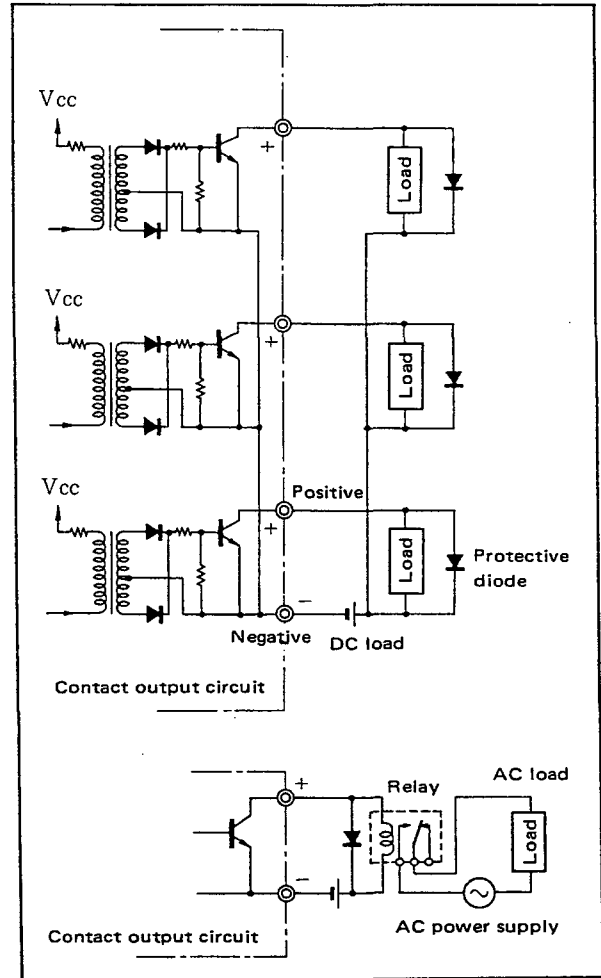

Figure 3-1-3. Connection of Contact Outputs.
- (1) Be sure to terminate all cable connections in solderless crimp-on lugs.
- (2) Each status and voltage input must be as per SLBC*E specifications. Note the limits on conductor resistance, voltage drop in conductors, and voltage (high/low) levels.
- (3) The fail and digital outputs are transistor contact signals (isolated from power supply and other internal circuitry). When connecting external devices, pay attention to the following: (See Figure 3-1-3.)
- When connecting a relay or other such inductive device, connect a surge absorber (protective diode — Figure 3-1-3, CR circuit, etc.) in parallel with the load.
- (4) Use shielded twisted-pair SCCD cable for communication lines.